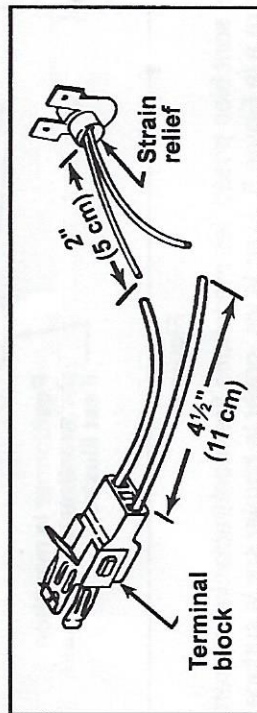

Figure 1
3. Raise the cooktop and remove the terminal block by cutting the two wires no more than 4 1/2" (11 cm) from the terminal block and no closer than 2" (5 cm) to the strain relief at the back of the cooktop. See Figure 1.